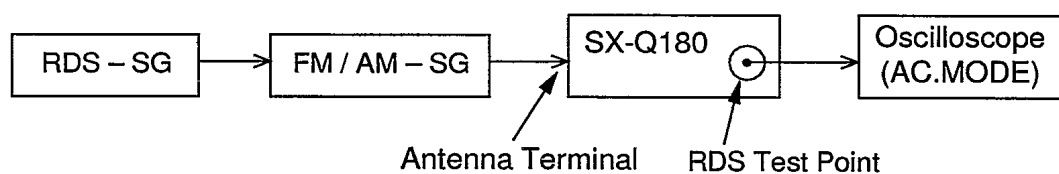

Fig. 3 RDS Adjustment Wiring Diagram
- Connect the wiring as shown in Fig. 3